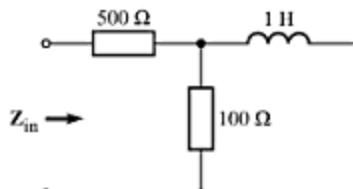

Fig. C-77
- C-130.** In the network shown in Fig. C-77, find the angular frequency at which (a)  $R_{in} = 550 \Omega$ , and (b)  $X_{in} = 50 \Omega$ . [Ans. (a) 100 rad/s, (b) 100 rad/s]